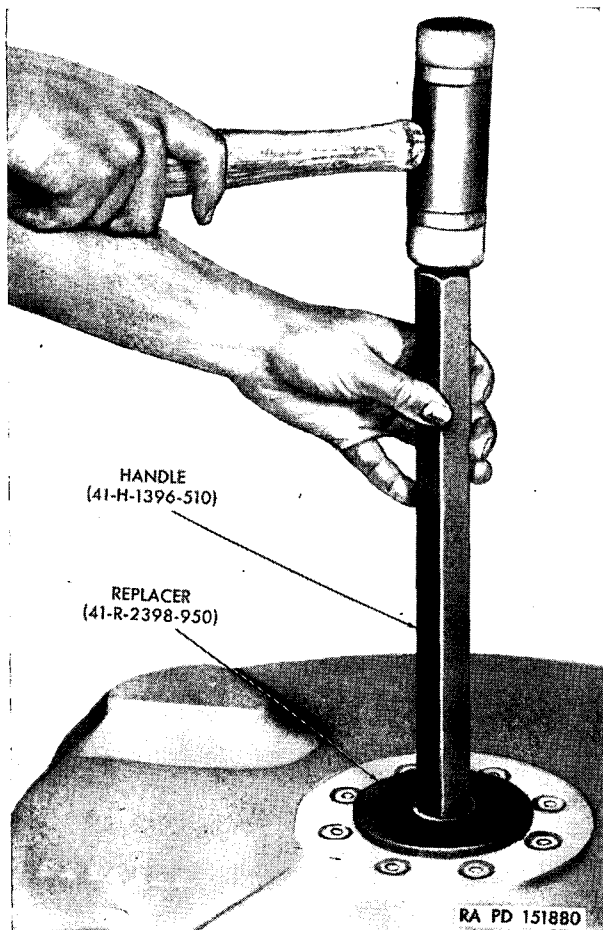

Figure 141. Replacing output-flange oil seal.
- (4) The output-flange spring-loaded lip-type oil seal should never be removed from the hub unless it is defective. To remove the seal, drive it out with a drift. Install a new seal using replacer (41-R-2398-950) and handle (41-H-1396-510) (fig. 141).